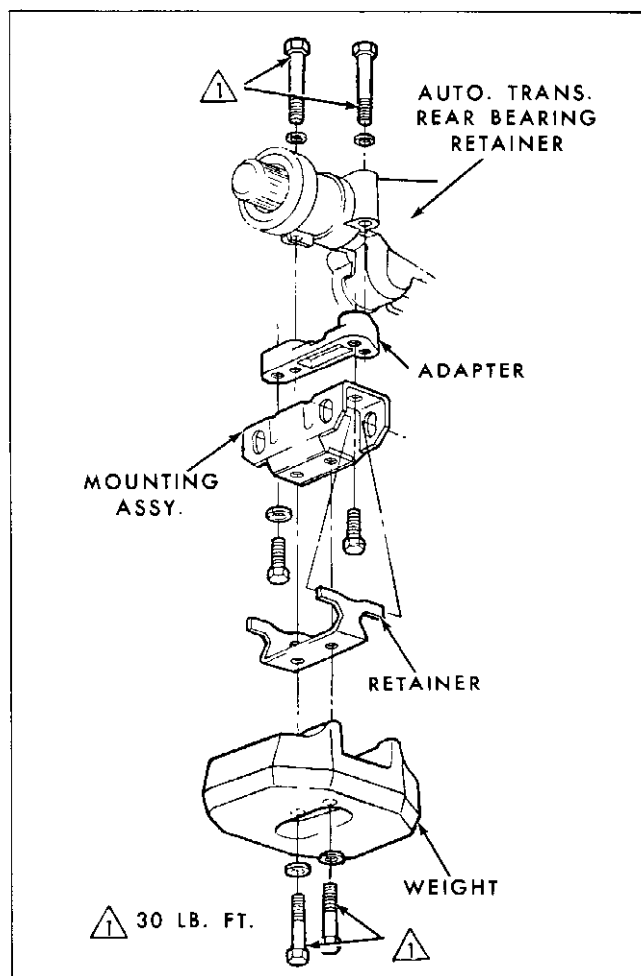

Fig. 7F-3 Driveline Damper
4. Insert a gage pin (3/32" dia.) in drive hole in left side of switch to a minimum depth of 1/4", to hold switch in position (see Fig. 7F-2, view A).
#### DRIVELINE DAMPER (Fig. 7F-3)